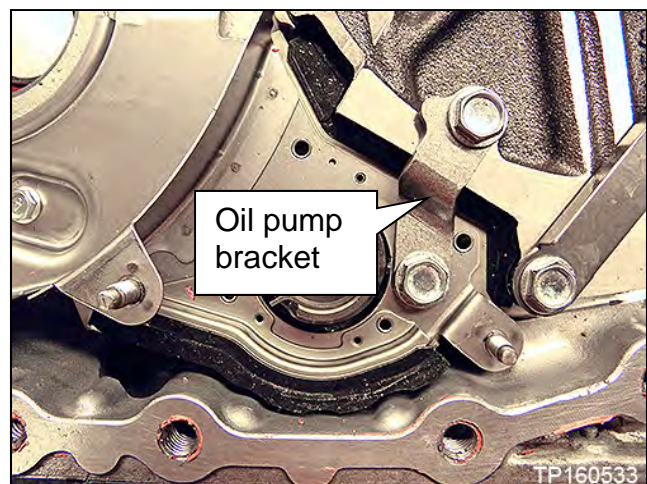

Figure 45
26. Remove the oil pump bracket (Figure 45).
- Retained by two (2) bolts.